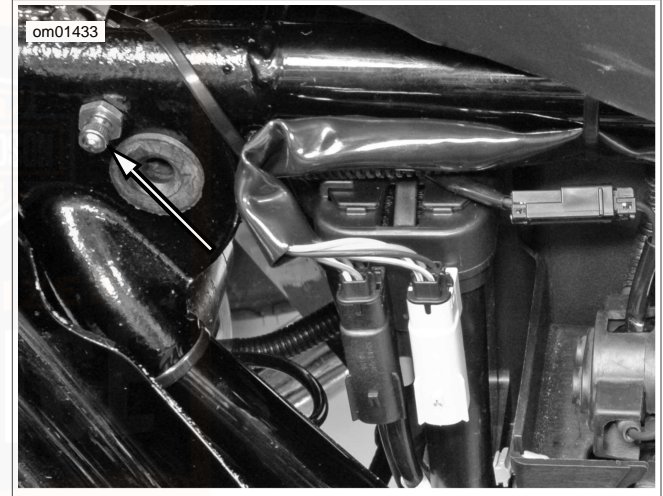

Figure 14. Rear Air Suspension Valve
2. See Figure 14. Remove the cap from the air valve located behind the shock absorber.